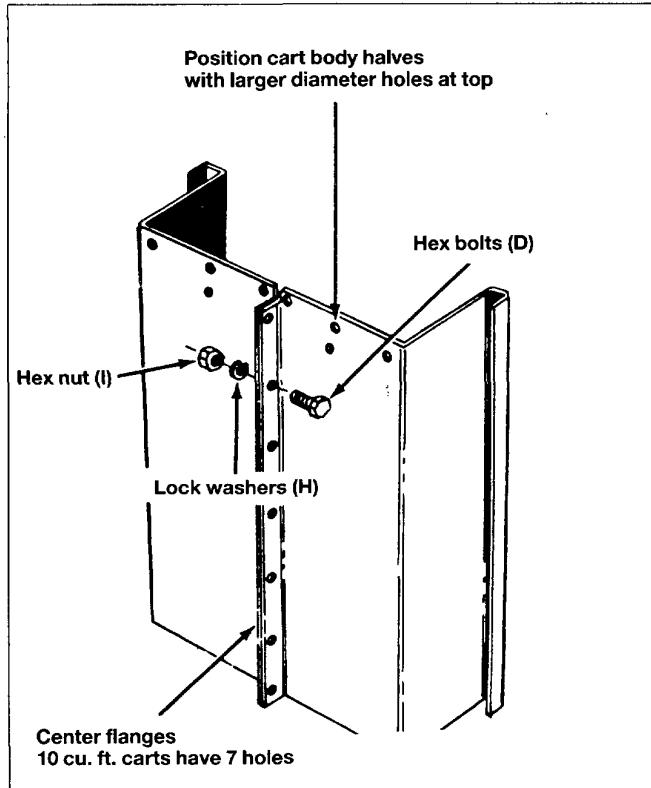

Fig. 3
3. Position cart body halves (P and R) upright as shown in figure 3. N.B. Large diameter holes to the top.